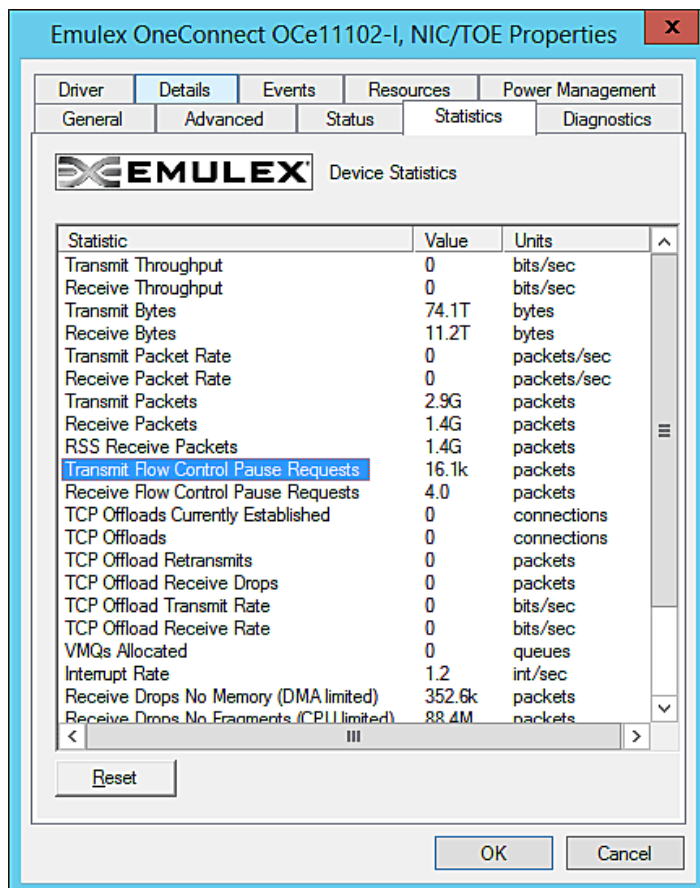

Figure 2-3 NIC/TOE Statistics Properties in Windows Server 2008
3. Click **Properties**, then click the **Statistics** tab (Figure 2-3 on page 51).